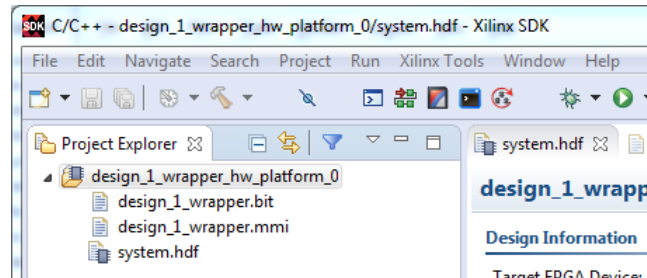

Figure 37: SDK New Project Selection
1. In SDK, right-click **mb_subsystem_wrapper_hw_platform_0** in the Project Explorer and select **New→Project**, as shown in Figure 37.